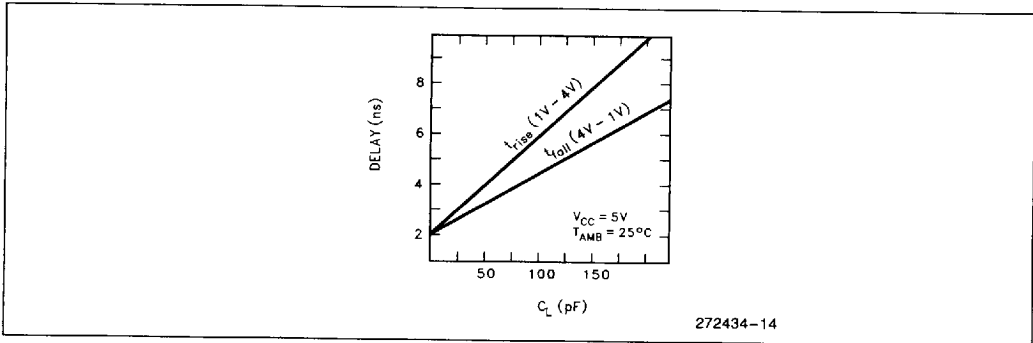

Figure 15. Typical Rise and Fall Variations versus Load Capacitance
- Specified for a 50 pF load, see Figure 15 for rise and fall times outside 50 pF.
6. See Figure 15 for rise and fall times.